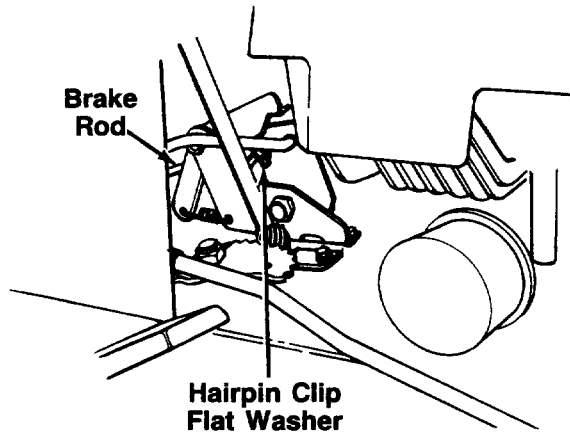

FIGURE 24.
12. Release the parking brake (be certain unit is blocked securely). Disconnect the brake rod from the clutch-brake pedal by removing the hairpin clip and flat washer. See figure 24.